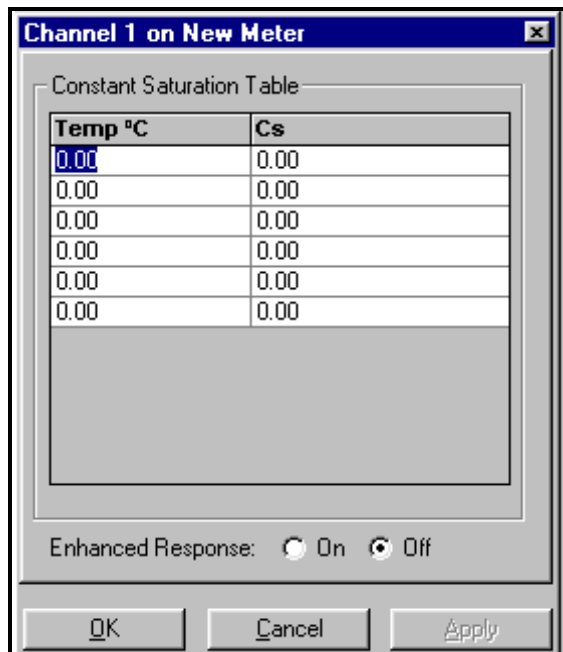

Figure 58: Constant Saturation Window
3. The “*Constant Saturation Table*” window appears, as shown in Figure 58.